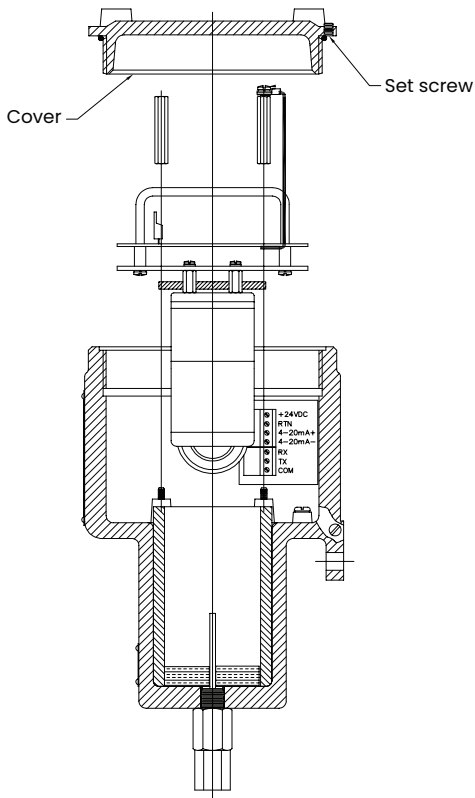

Figure 53: Transmitter cover and set screw
2. Loosen the set screw that locks the XMTC cover in place, and unscrew the cover (see *Figure 53* below).